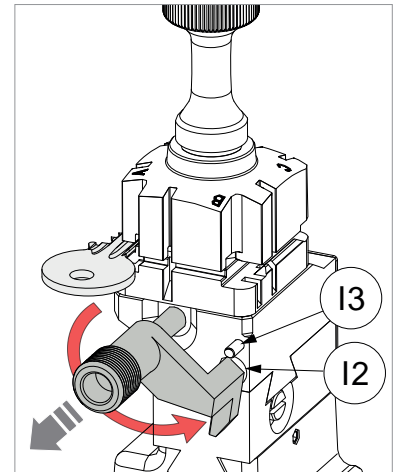
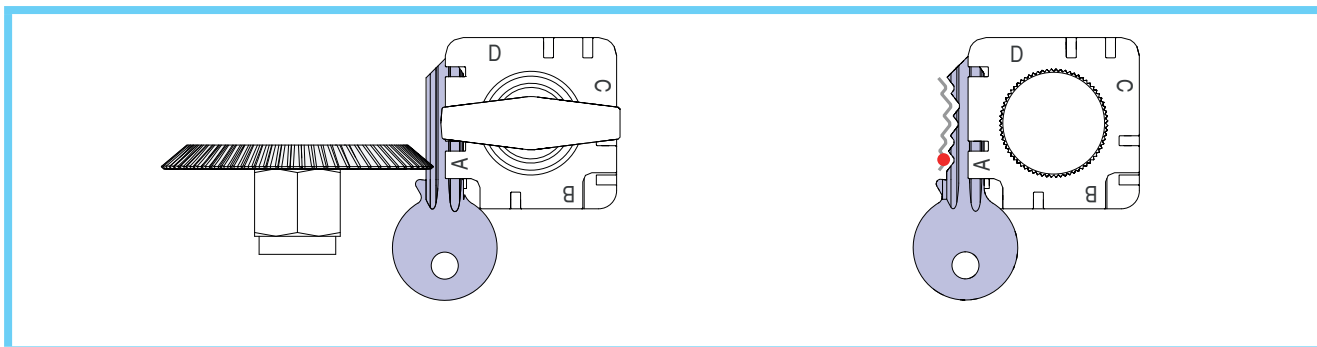

Fig. 28
Fig. 37 - BLUE light
NOTE: before starting key reading THE GAUGE MUST BE TAKEN MANUALLY TO ITS ORIGINAL POSITION (Fig. 28).
For all reading and cutting operations the gauge (I) must be taken back manually to its original position (Fig. 28 - in this position it covers the sensor (I2) which detects it).
- 1) Raise the safety shield (C).
- 5) Take the reader-side gauge to the original position (Fig. 28, page 15).
- 6) Lower the safety shield (C).
- 7) Press START to start the cutting operation, indicated by a BLUE LIGHT (Fig. 37 - BLUE light).